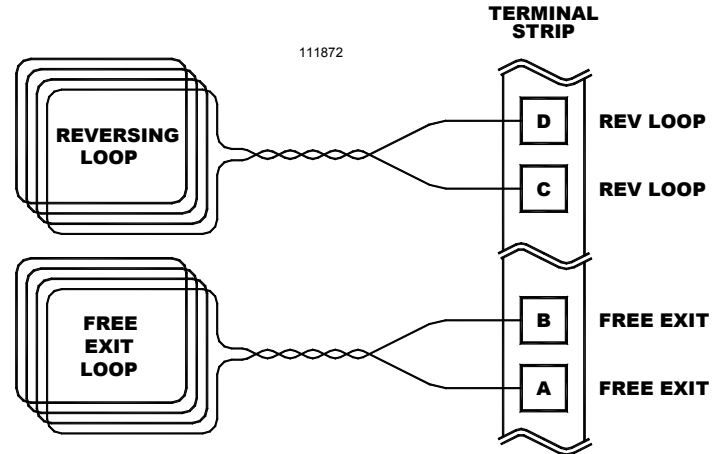
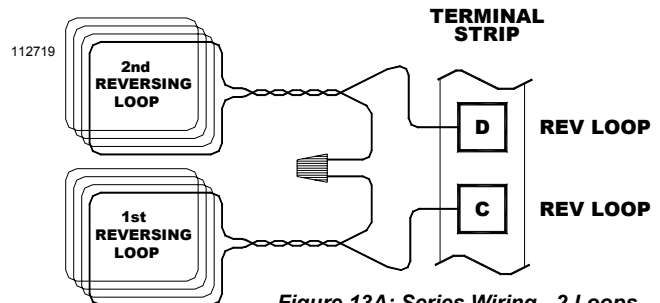

Figure 13: Wiring A Free Exit or Reversing Loop Detector
Figure 13A: Series Wiring - 2 Loops
Figure 13. If employing two (2) Reversing Loops as shown in the diagram on Page 7, and are connecting the loops to the same Loop Detector, wire in series as shown in Figure 13A.
FREE EXIT VEHICLE DETECTOR: If also employing a Free Exit Loop Vehicle Detector, install a 24 VAC powered, 11 pin (round configuration) vehicle detector module into the detector socket. The vehicle detector module must have a relay contact output. The Free Exit Loop socket is pre-installed in the rear of the control panel and is the socket towards the middle. The actual loop is installed in the concrete or asphalt surface in accordance with the manufacturer's instructions and the information outlined earlier in this manual (see Page 7). Connect the wires from the actual Free Exit loop to Terminals A and B, see Figure 13.